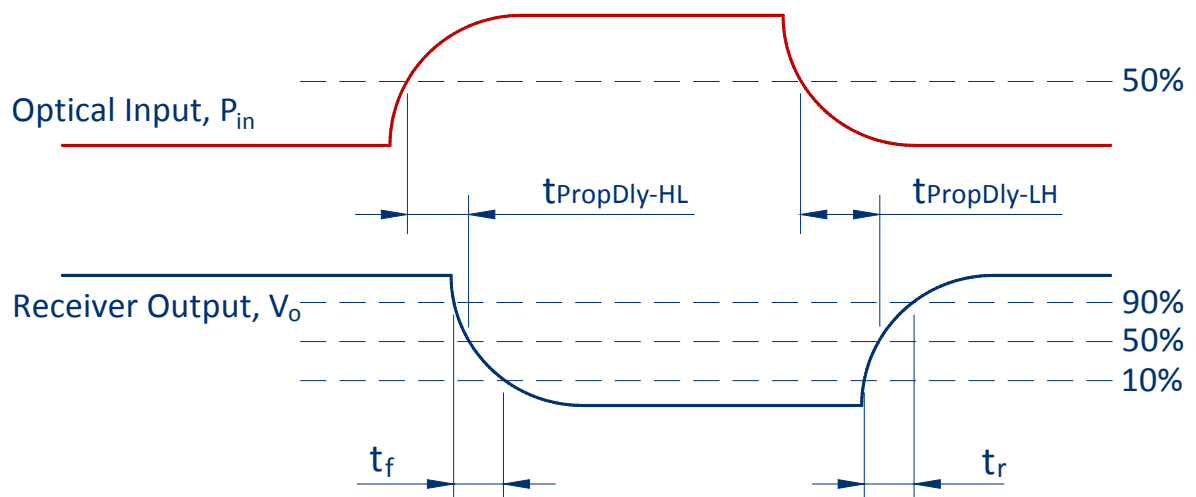

FIGURE 3
9. Pin 4 is electrically isolated internally. Pin 4 may be externally connected to pin 1 for board layout compatibility with existing designs. Otherwise it is recommended pin 4 be grounded as in Figure 3.